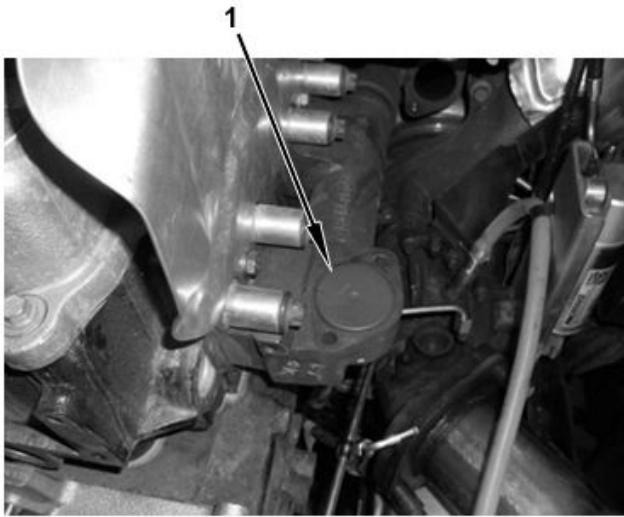

Figure 16. Rear Exhaust Manifold Outlet.
20. Place cap on rear exhaust manifold outlet (Figure 16, Item 1).